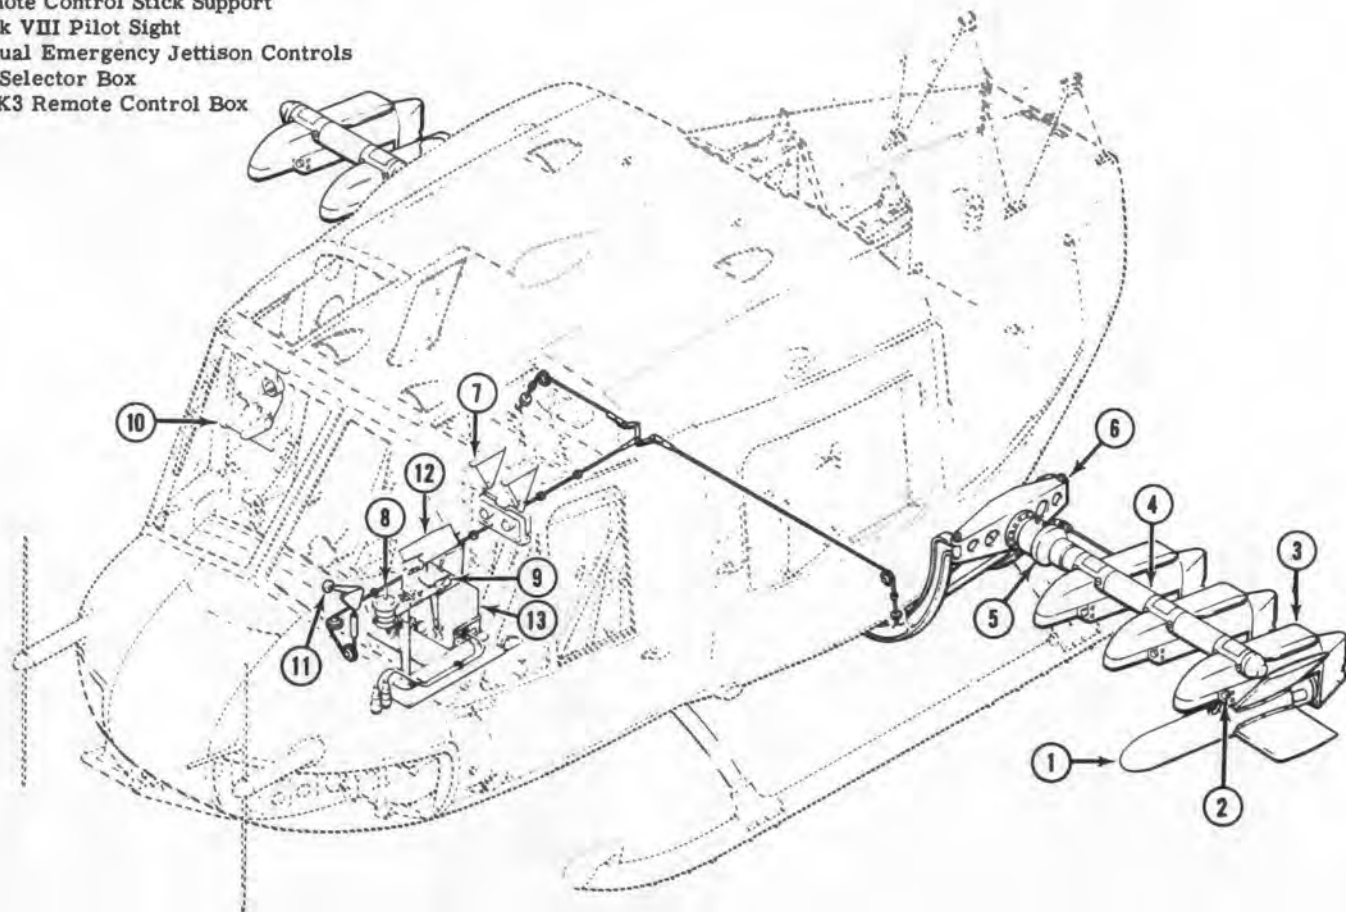

Figure 14-7. XM22 missile installation and command box assemblies
14-80. XM 22 Missile Installation. (See figure 14-7.) Model UH-1B helicopters, Serial No. 62-1997 and subsequent, may be equipped with an XM22 missile installation. This installation is very comparable to the SS-11 missile installation. In the XM22 installation the gunner and pilot (10) sights are attached to the cabin roof, and the remote control stick (8) is mounted on a support assembly (9). The air selector box (12) and remote control box (13) control the operation of the system as signaled by the gunner through the remote control stick.
14-86. Launcher and Pylon — XM22 Missile Installation. (See figure 14-7.) (Refer to paragraph 14-50.)
14-92. Installation — XM22 Missile Installation Launcher and Pylon. (See figure 14-7.) (Refer to paragraph 14-56.)
14-98. Gunner Sight and Control Stick Assemblies. (See figure 14-7.) The XM22 missile installation utilizes a gunner sight mounted to a bracket which is attached to the cabin roof. This sight is used in conjunction with the pilot sight to track the missile during flight. The control stick assembly in this configuration incorporates an adjustable arm rest and is mounted on a panel assembly which is attached to the cabin floor.
14-99. Removal—Gunner Sight and Control Stick Assemblies. (See figure 14-7.) a. Support the gunner sight (7) and detach from bracket in cabin roof. Remove sight.
14-100. Installation — Gunner Sight and Control Stick Assemblies. (See figure 14-7.) Install gunner sight and control stick assemblies as follows:
14-101. Pilot Sight Assembly — Mark VIII. (See figure 14-7.) The pilot sight for the XM22 missile installation is used by the pilot as an aid in maintaining alignment of the helicopter with the target during firing of a missile. It is mounted to the cabin roof.
14-104. Air Selector and Remote Control Boxes. (See figure 14-7.) The air selector and remote control boxes for the XM22 missile installation are located in the cabin area just aft of the instrument pedestal between the gunner and pilot. These units select and control the firing of missile(s) as required by signals from the remote control stick. Switches on the air selector box enable the gunner to jettison individual missiles and launchers; simultaneously jettison all missiles and launchers or jettison the junction box and missile guidance wires after a missile has been fired.
14-105. Removal — Air Selector and Remote Control Boxes. (See figure 14-7.) a. Make sure that the helicopter master battery switch is in the "OFF" position and that all external power is disconnected.
14-106. Installation — Air Selector and Remote Control Boxes. (See figure 14-7.) a. Position remote control box in mount and install attaching strap assembly and wing nuts.